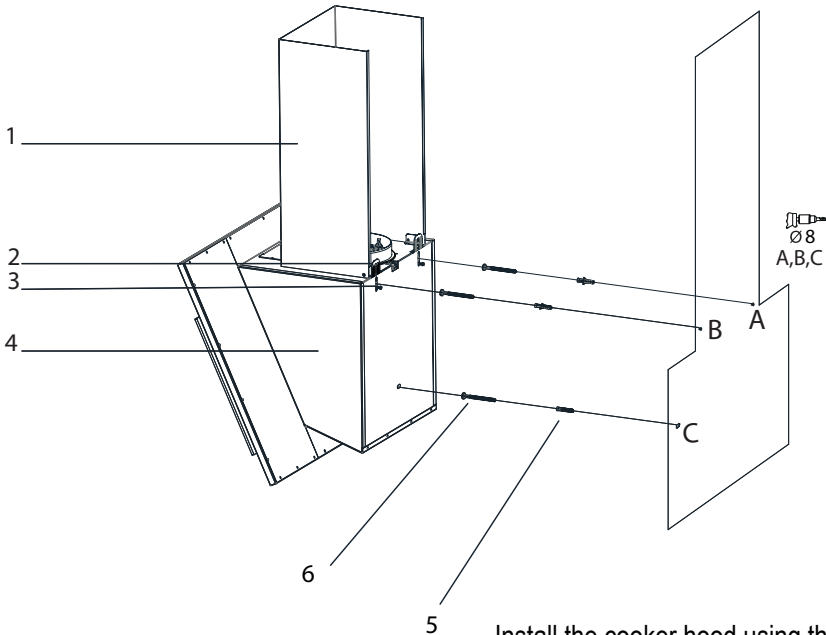

Fig. 9: INSTALLATION AND COMPONENTS
Install the cooker hood using the mounting diagram. Attach the mounting diagram to the wall at the specified height (see the minimum and maximum distance from the ceiling in the mounting diagram). Drill Points A, B and C. (Figure 9) Insert the 8 mm dowels (5) into the drilled holes at A, B and C, and tighten the screws in Points A + B so that there is a 5 mm gap between the screw top and the wall (Figure 9). Adjust the position of the mounting plate for the cooker hood (2) by loosening the mounting plate of the cooker hood (3) and fix the hood plate for the cooker hood. Push holes A and B on the side of the cooker hood. Tighten the fixing screws A + B to the wall and fully secure the unit in point C.